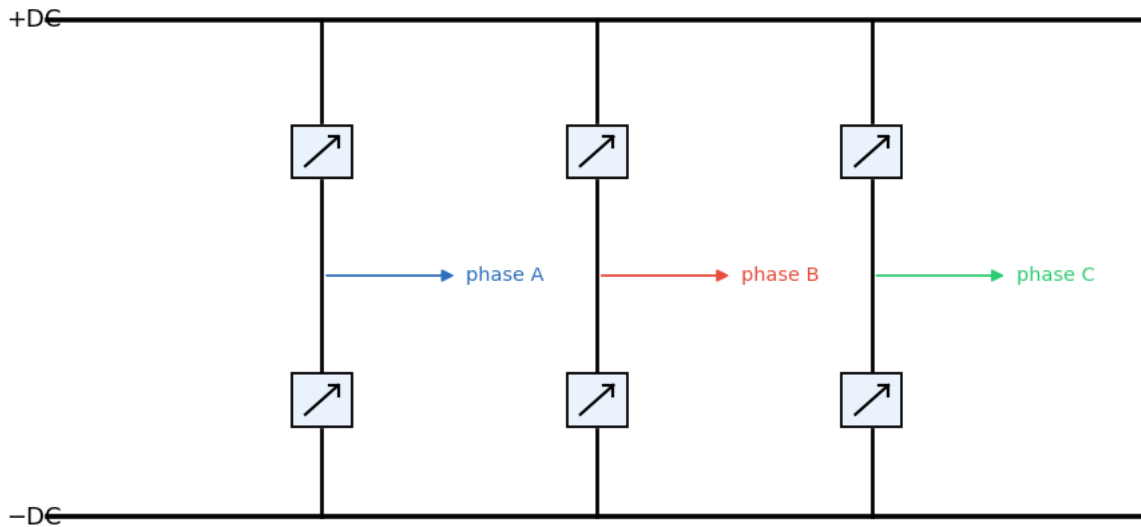

Figure 7: Fig. 7 — Three-phase inverter
1. **Speed controller (PI):** compares commanded vs measured speed → produces the torque command  $i_{q*}$  (with  $i_{d*} \approx 0$ ).
2. **Current controllers (PI):** regulate  $i_d$ ,  $i_q$  to their references using the measured phase currents transformed into the d-q frame (Clarke + Park).
4. **Three-phase voltage-source inverter (Fig. 7):** six power switches (IGBT/MOSFET) chop the DC bus to synthesise the desired sinusoidal voltages.